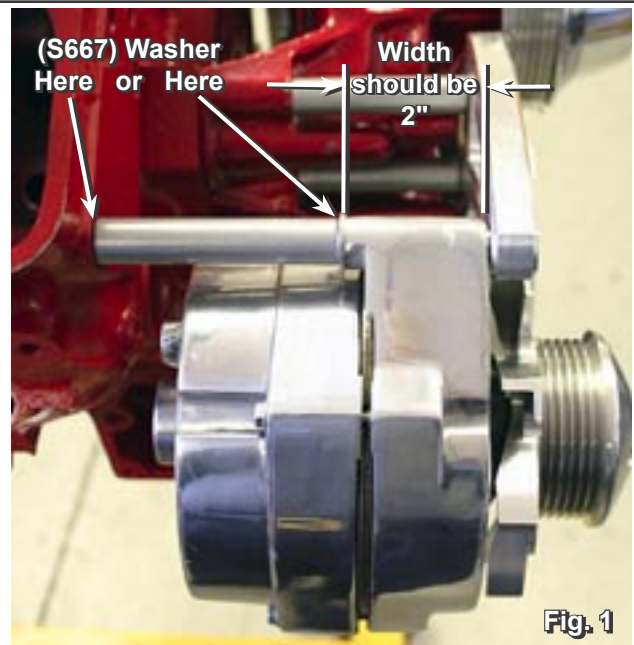

Fig. 1
2. Bolt Alternator to engine head using one (S282) 3/8-16 x 6" SHCS (some engine heads use (S376) 7/16-14 x 6" SHCS) thru (20127-A) Alternator Bracket & one (TP3-3.250) Spacer between Alternator & engine head. (Note; if using a polished alternator, check the width of the ear on the alternator. If it is less than 2" wide, (S667) Washers may need to be used between alternator & spacer. see Fig.1) Completely tighten all screws.